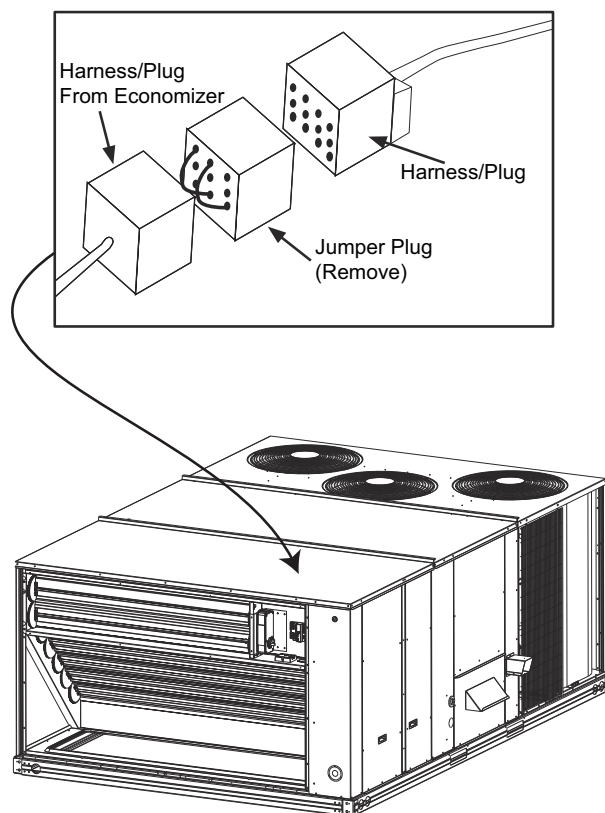

Fig. 23 — Unit Wiring Harness
8. Before the economizer is secured in place on the right hand side, remove and save the 12-pin jumper plug from the unit wiring harness. Insert the EconoMi\$er IV plug into the unit wiring harness plug. (See Fig. 23.)